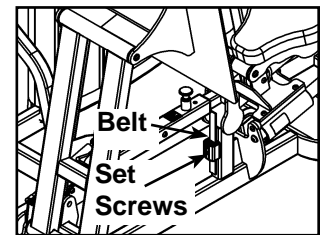

Figure 2
F. Locate the belt attached near the adjusting tube. See Figure 2.